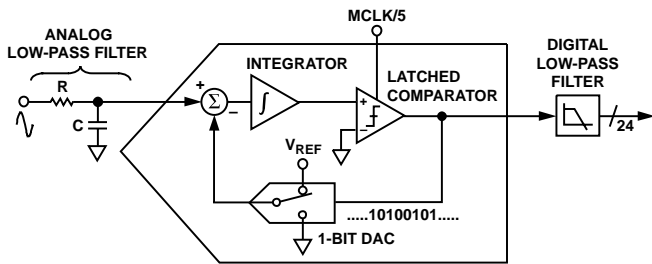
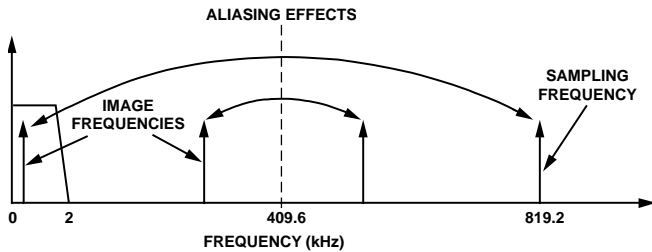

Figure 18. First-Order  $\Sigma$ - $\Delta$  ADC
Figure 20. ADC and Signal Processing in current channel Outline Dimensions
For simplicity, the block diagram in Figure 18 shows a first-order  $\Sigma$ - $\Delta$  ADC. The converter is made up of the  $\Sigma$ - $\Delta$  modulator and the digital low-pass filter.
Figure 18 also shows an analog low-pass filter (RC) on the input to the modulator. This filter is present to prevent aliasing. Aliasing is an artifact of all sampled systems. Aliasing means that frequency components in the input signal to the ADC, which are higher than half the sampling rate of the ADC, appear in the sampled signal at a frequency below half the sampling rate. Figure 20 illustrates the effect. Frequency components (arrows shown in black) above half the sampling frequency (also known as the Nyquist frequency, i.e., 409.6 kHz) are imaged or folded back down below 409.6 kHz. This happens with all ADCs regardless of the architecture. In the example shown, only frequencies near the sampling frequency, i.e., 819.2 kHz, move into the band of interest for metering, i.e., 40 Hz to 2 kHz. This allows the use of a very simple LPF (low-pass filter) to attenuate high frequency (near 819.2 kHz) noise, and prevents distortion in the band of interest. For conventional current sensors, a simple RC filter (single-pole LPF) with a
corner frequency of 10 kHz produces an attenuation of approximately 40 dB at 819.2 kHz — see Figure 20. The 20 dB per decade attenuation is usually sufficient to eliminate the effects of aliasing for conventional current sensors. However, for a di/dt sensor such as a Rogowski coil, the sensor has a 20 dB per decade gain. This neutralizes the -20 dB per decade attenuation produced by one simple LPF. Therefore, when using a di/dt sensor, care should be taken to offset the 20 dB per decade gain. One simple approach is to cascade two RC filters to produce the -40 dB per decade attenuation needed.